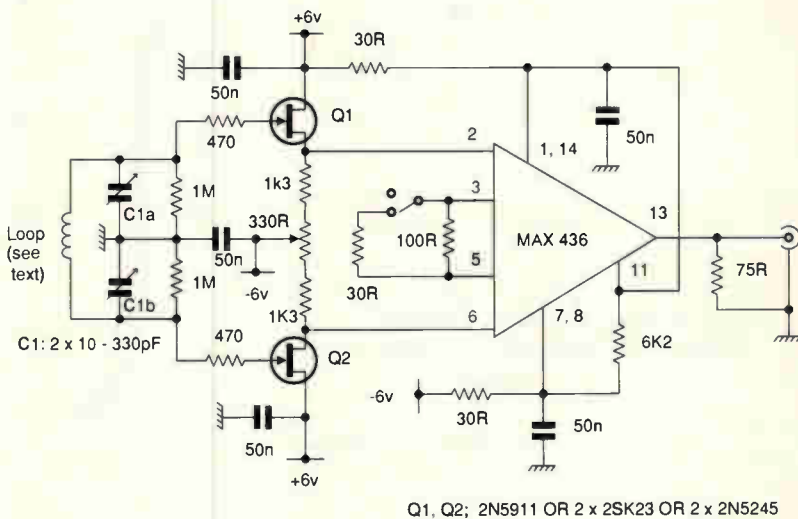

Fig. 10. This active frame aerial (see text) covers most of the hf band.
Figure 10 shows an active loop antenna. Using a three-turn 15in diameter coil of 8AWG wire with half-inch turn spacing, it covers 4.4-16MHz. The switch provides a choice of 8dB or 20dB gain. Further details can be found in ref. 3.